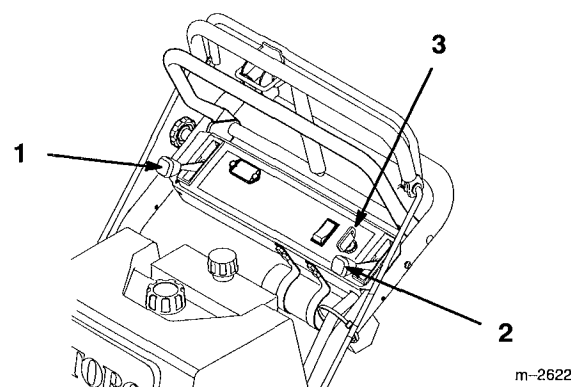

Figure 11
1. Move the throttle lever to “SLOW” (Fig. 11).
2. Turn the ignition key to “OFF” (Fig. 11).